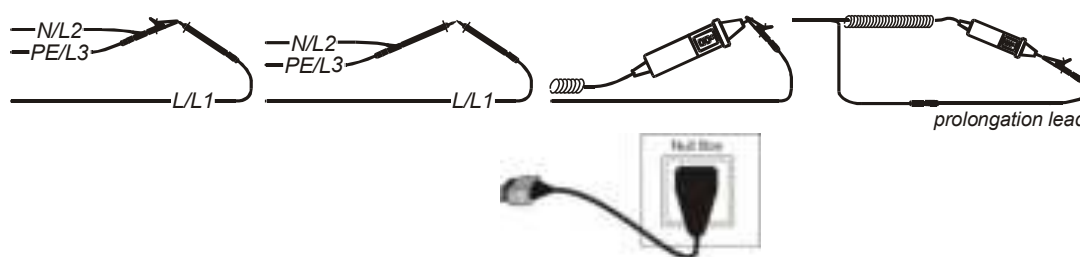

Figure 5.1: Shorted test leads
- ❑ **Connect** test cable to the instrument and short the test leads together (see figure 5.1).